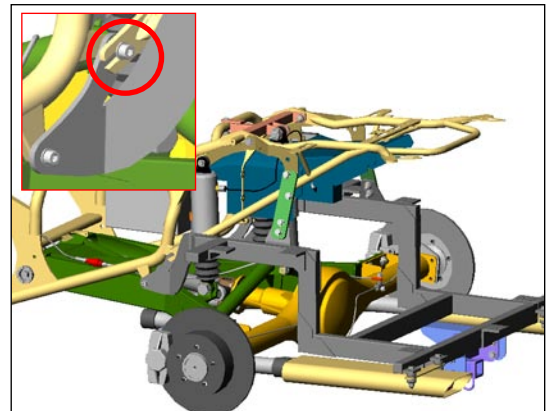

Figure 51
- c. Remove the two socket head bolts that secure the diagonal legs of the trunk stay and forward mount of body frame to the vehicle frame. Figure 51(Inset)